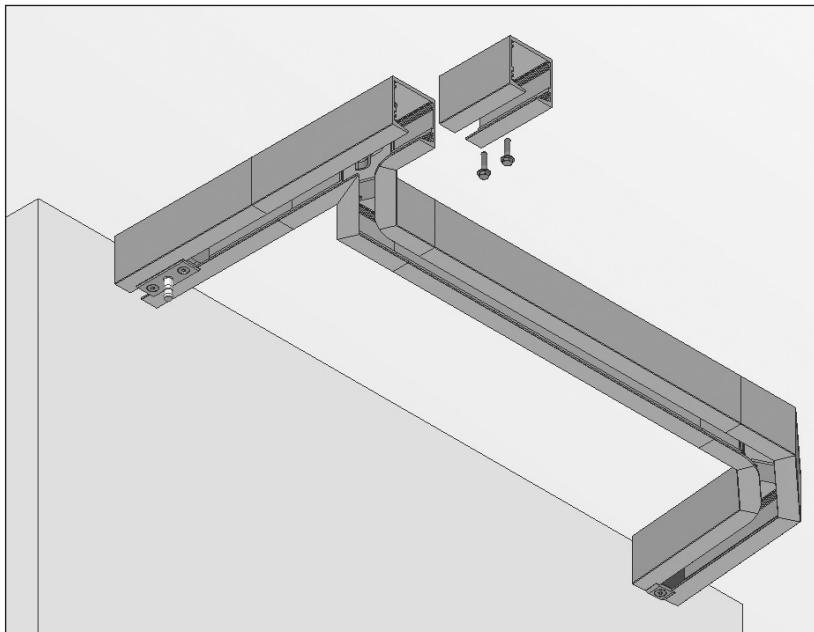

Figure 5
1. Locate and install the Roller Access Splice as shown on the CPP. If your SPS System was ordered with stock length Track(s), The Roller Access Splice is pre-drilled and ready to receive two fasteners. Align the Roller Access Splice with the end of the Parking Area Assembly and fasten into place (Fig 5). Use 3/8" Hex Head type fasteners made from one of the following materials: A307 Galvanized or A316 Stainless Steel.